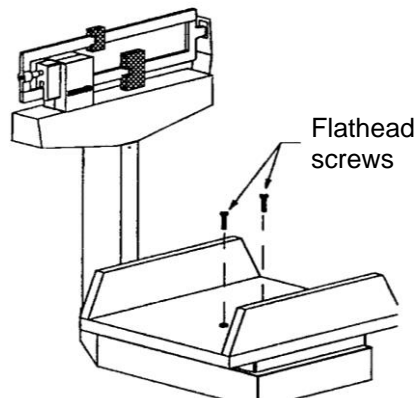

Figure 4 - View showing attachment of baby tray to scale platform base.
4. Attach baby tray to scale platform using the two (2) flat head screws provided. Do not over-tighten screws. (see Figure 4)